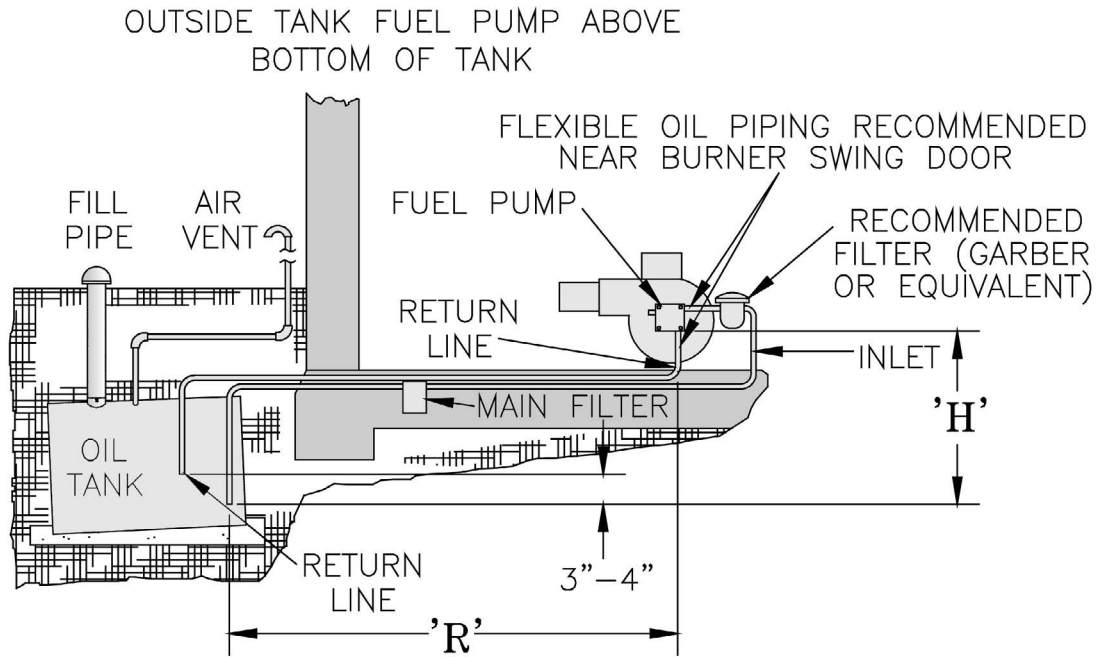

Figure 8-2: Two Pipe Oil Lines
1. For two piped systems, where more lift is required, the two-stage fuel unit is recommended. Refer to Figure 8-2.